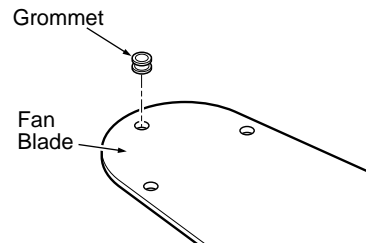

Figure 7a - Inserting Grommet into Fan Blade
1. Your fan may include blade grommets (see Parts List). If your fan has grommets, insert them by hand into the holes as shown in Figure 7a.